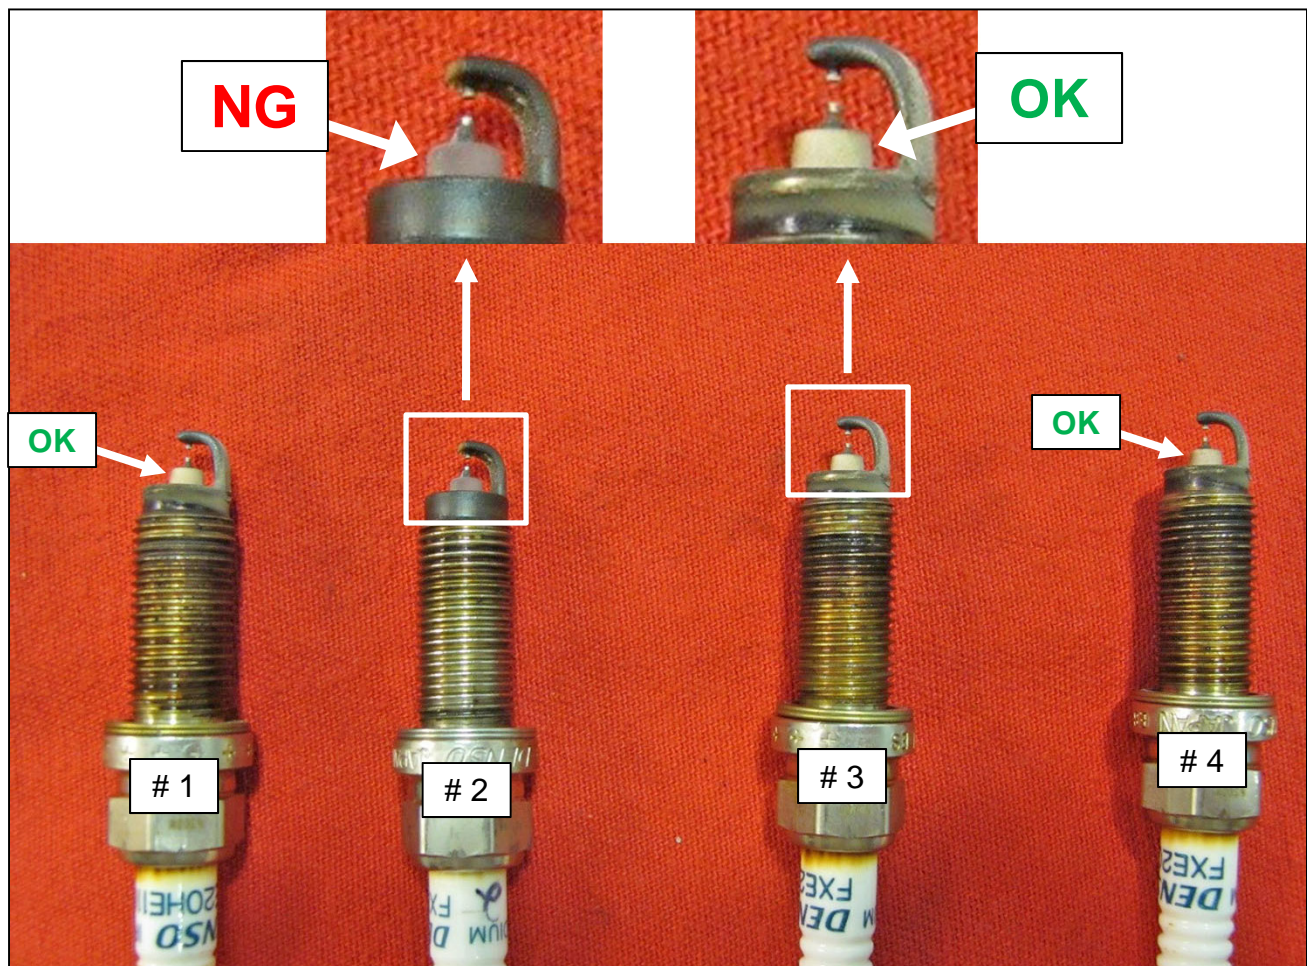

Figure 12
7. Remove all four (4) spark plugs.
8. Visually inspect the electrode area of the spark plugs from cylinders # 1 and # 2 (refer to the example in Figure 12).